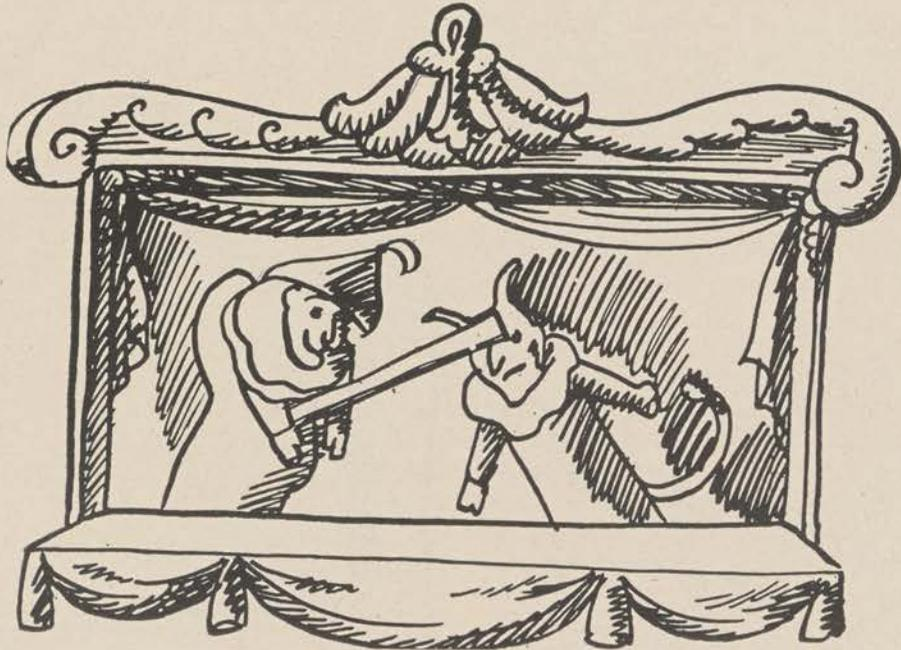

Figure 132.
e. Hand-puppets are hollow figures that fit over the hand and forearm. They may be made very easily because they consist of little more than a bag, head, and hands. But they are of the most difficult types to work well. Since movements of the head and arms depend upon the deft action of the operator's separate fingers he requires something of the coordination of a pianist. Since hand-puppets are held above the puppeteer's head, he must have practice in keeping his arms straight up for the duration of a scene. Hand-puppets are excellent for rapid, slapstick action. They are easy to pack away and to transport. But unless they are worked skillfully, they may seem wooden and undramatic (fig. 132).